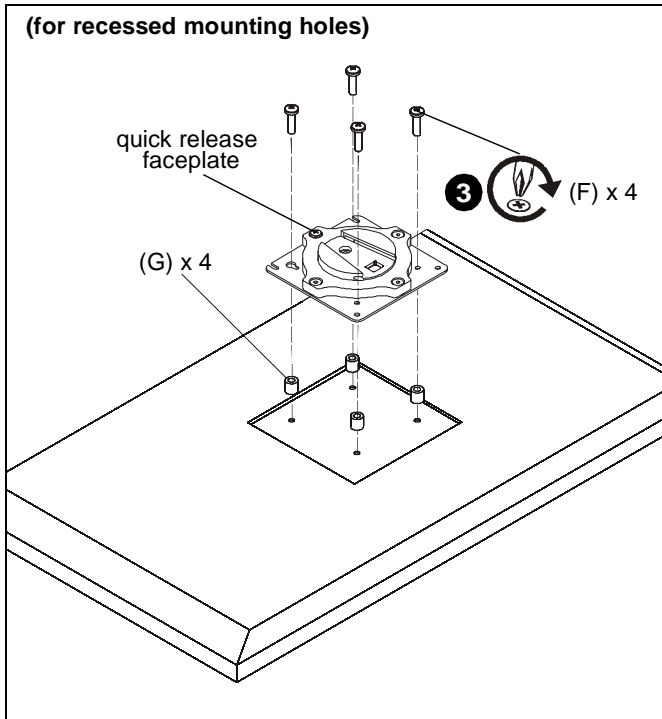

Figure 5
- Place four spacers (G) on top of mounting holes on back of display. (See Figure 5)
- Carefully install four M4x25mm Phillips screws (F) through corresponding holes on faceplate, spacers (G) and into the mounting holes on the display. (See Figure 5)